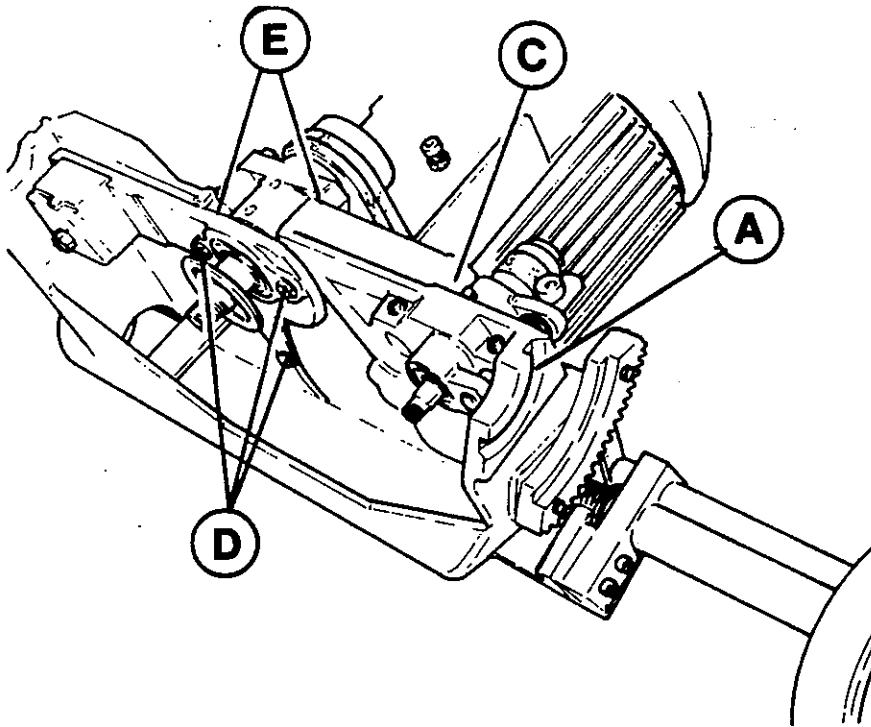

Fig.47
- 1) Slideways (A fig.47) for saw blade tilting
- 2) Surfaces (B) and pivot (C) for saw blade lifting
- 3) Joints (D fig.47) of riving knife